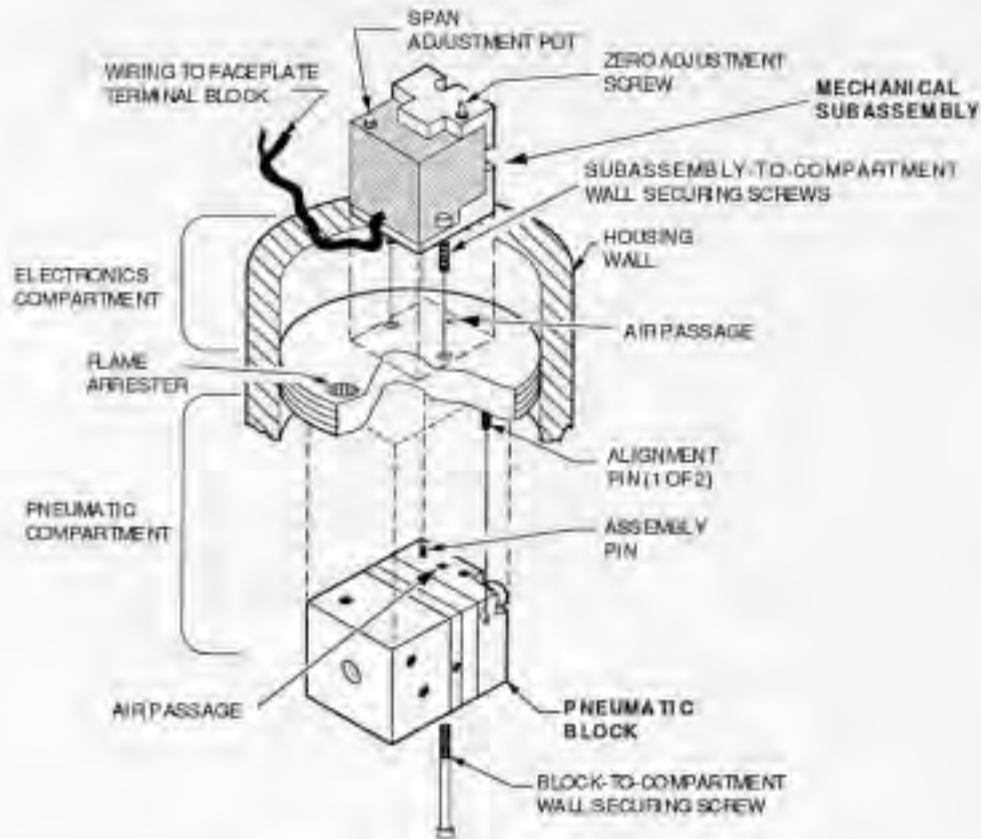
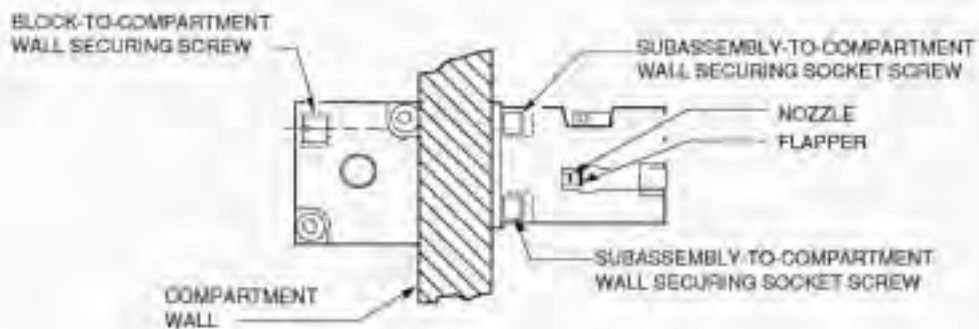

Figure 7. Disassembly of the IPX for Maintenance
Figure 8. Detail of IPX Disassembly
Figure 7 illustrates the level of IPX disassembly necessary to perform the internal maintenance procedures. See figure 1, which shows the initial steps of the disassembly procedure, then refer to figure 7 and figure 8, a detail of the disassembly.
2. Use syringe to flush flapper air passage with trichloroethane (TCE). See figure 8.
2. Dip cleaning wire in TCE, and use it to clean the air passage between block and mechanical subassembly (see figure 7).